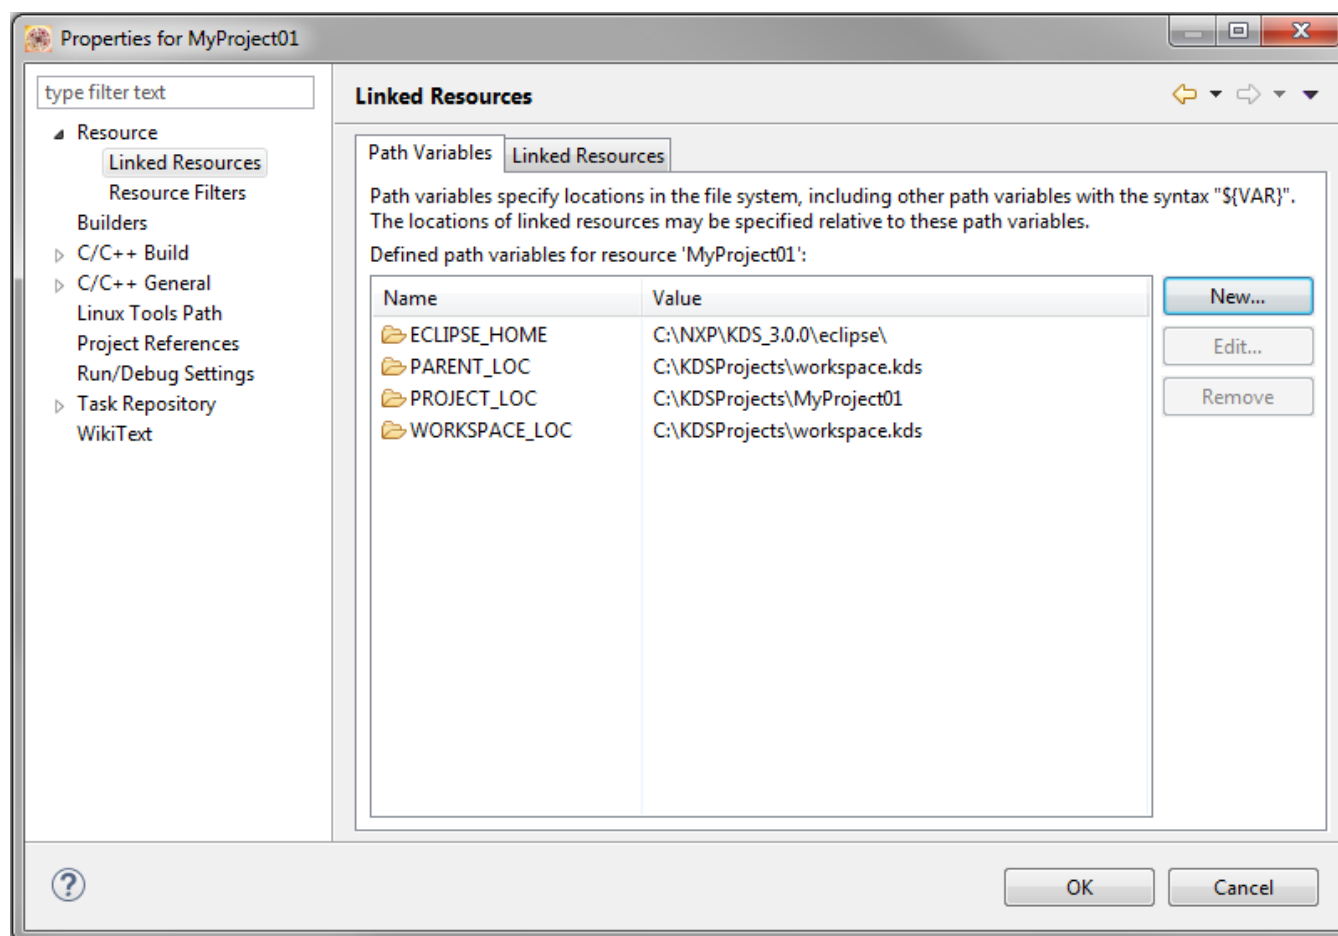

Figure 1-12. Project properties
2. Expand the Resource node and click Linked Resources. See Figure 1-12.